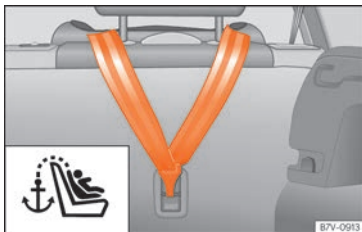

**Fig. 31** Back of the rear seats: Top Tether securing rings.
Child seats with a Top Tether system are fitted with an additional strap for fastening to an anchor point in the vehicle. This anchor point is located on the rear of the rear seat backrest » **Fig. 31** and provides better retention.
- Slide the strap and secure it properly with the anchorage of the backrest » **Fig. 31**.